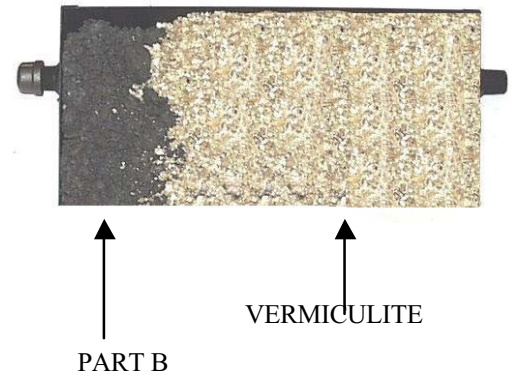

Figure 3
3. **PART B EMBERS** (rockwool) are placed over the vermiculite to simulate glowing embers. For best results pinch off dime sized pieces and feather it out. Place as much as desired over the area the gas comes through. (SEE FIGURE 3.)